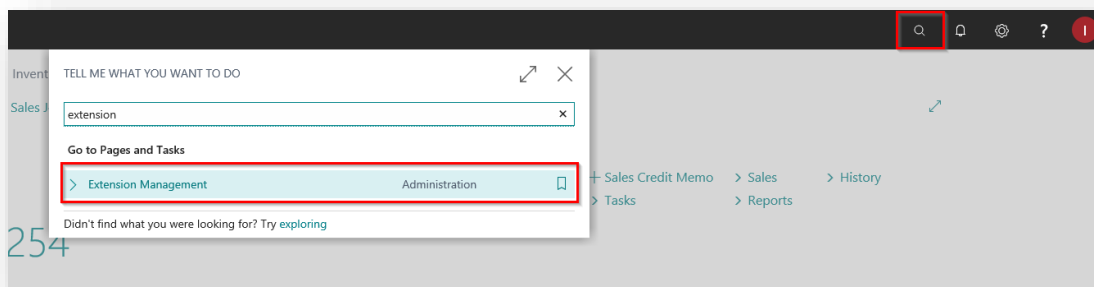

Figure 5-1
1. Open your Dynamics 365 Business Central Web Client and use the **Tell Me** to search for **Extension Management** (*Figure 5-1*).